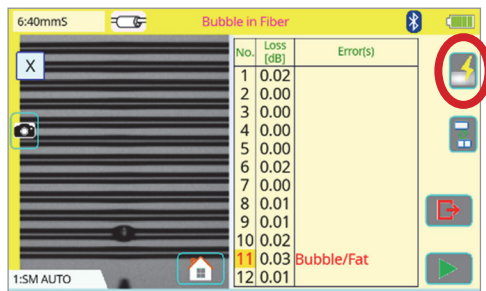

Figure 7
- A true bubble will appear as a dark circle at the splice point. Verify it is a bubble by pressing the **Re-Arc** button after the splice. If the occlusion changes or the spot grows, then it is a bubble. Break and re-splice (**Figure 7**).